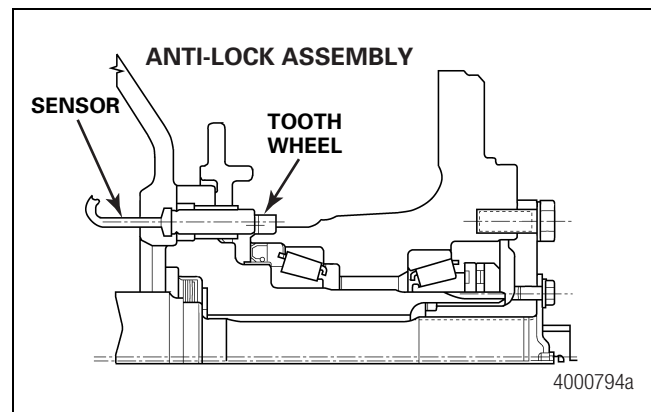

Figure 6.23
1. On units equipped for ABS, push the ABS sensor completely into the sensor bearing until it contacts the tooth wheel on the hub. Figure 6.23.